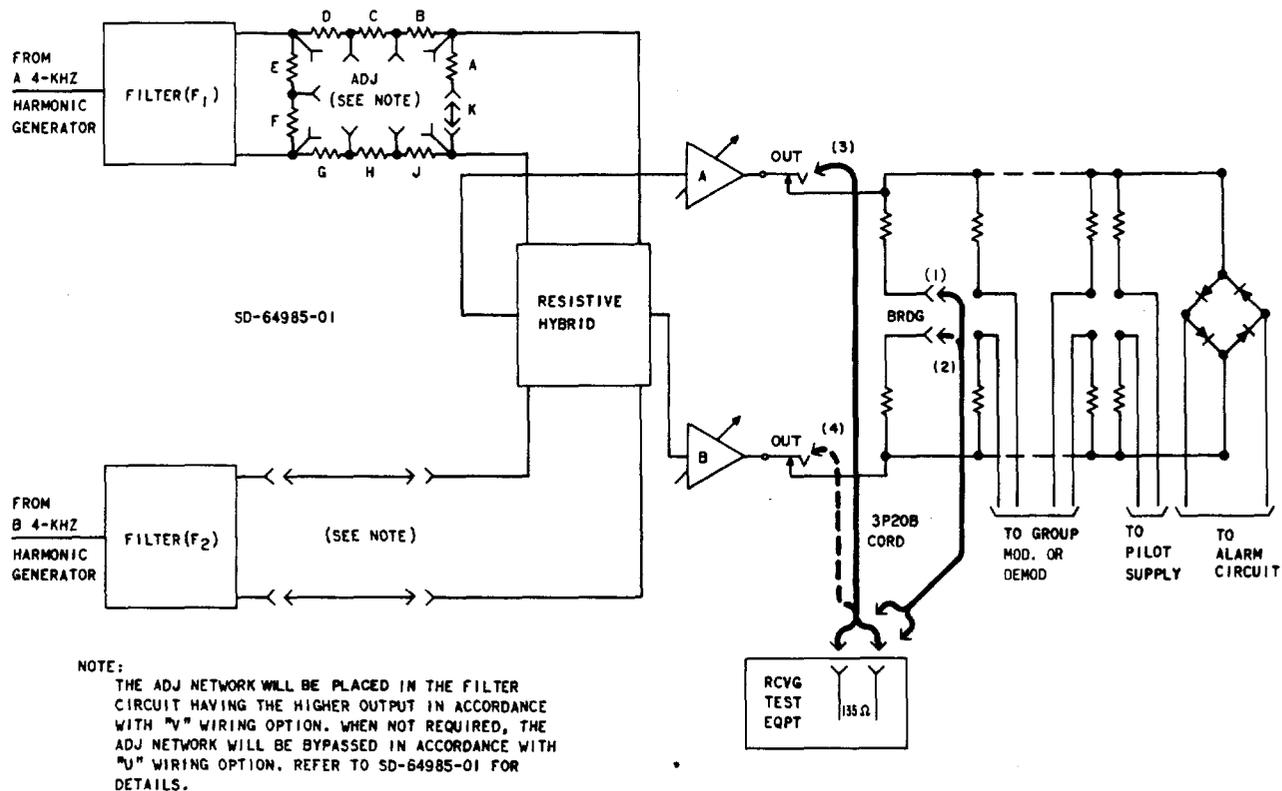

Fig. 2—Group Carrier Distributing Circuit—Measurement of Amplifier Output Power
2	Connect the RTE to the BRDG jack of the A amplifier [patch (1), Fig. 2].
5	Remove [patch (1), Fig. 2] and connect the RTE to the BRDG jack of the B amplifier [patch (2), Fig. 2].
7 If the requirement of Step 6 is met for all groups, remove [patch (2), Fig. 2] and proceed to Step 8. If it is not met, perform the tests in Chart 2.
12	Remove [patch (2), Fig. 2].
| 2 | Connect the RTE to the OUT jack of the A group amplifier [patch (3), Fig. 2]. |
| 5 | Remove [patch (3), Fig. 2] and connect the RTE to the OUT jack of the B group amplifier [patch (4), Fig. 2]. |
| 7 | If the requirement of Step 6 is not met, adjust the amplifier GAIN control to meet the requirement. Remove [patch (4), Fig. 2]. |
12 Remove [patch (4), Fig. 2].